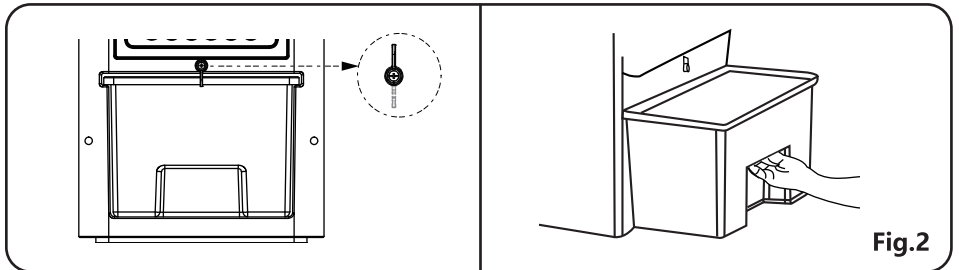

Fig.2
a. Before operating the unit in cool mode, turn the small knob, pull out the water tank and ensure the water tank escape valve is properly affixed. Then, fill the water tank with clean water being sure not to exceed the maximum level indicated.(Fig. 2/ Fig. 3/ Fig. 4)